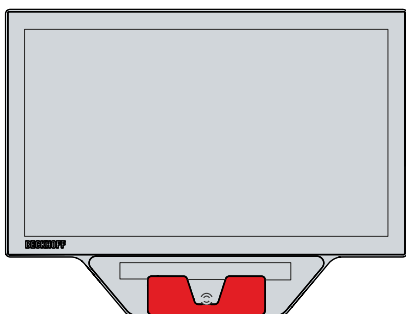

Fig. 18: CP32xx\_position holder RFID card
3. Position the holder with the lower edge flush with the lower edge of the front foil (see Fig. 18).